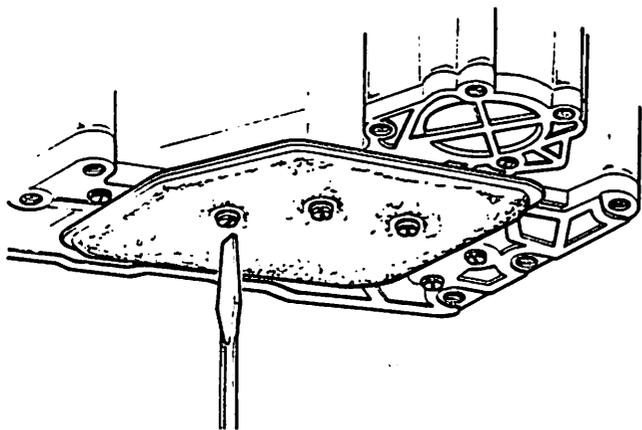

Fig. B-24 Removing Automatic Transmission Filter
(1) Remove transmission pan screws, pan, and gasket.
(2) Remove and discard oil filter (fig. B-24).
(3) Remove and discard O-ring seal from pick-up pipe.
(4) Install new O-ring seal on pick-up pipe and install strainer and pipe assembly.
(5) Clean pan thoroughly and position new gasket on pan. Use petroleum jelly, or equivalent, to position gasket.
(6) Install pan. Secure with attaching screws and tighten to 10 to 13 foot-pounds (14 to 18 N•m) torque.
(7) Pour approximately 5 quarts (4.71 liters) of Dexron II® automatic transmission fluid into filler pipe. Be sure container spout, funnel, or other items in contact with fluid are clean.
(8) Start engine and allow it to idle a few minutes.
(9) Apply brake pedal and parking brake. Shift transmission into all positions then place the selector lever in N (Neutral).